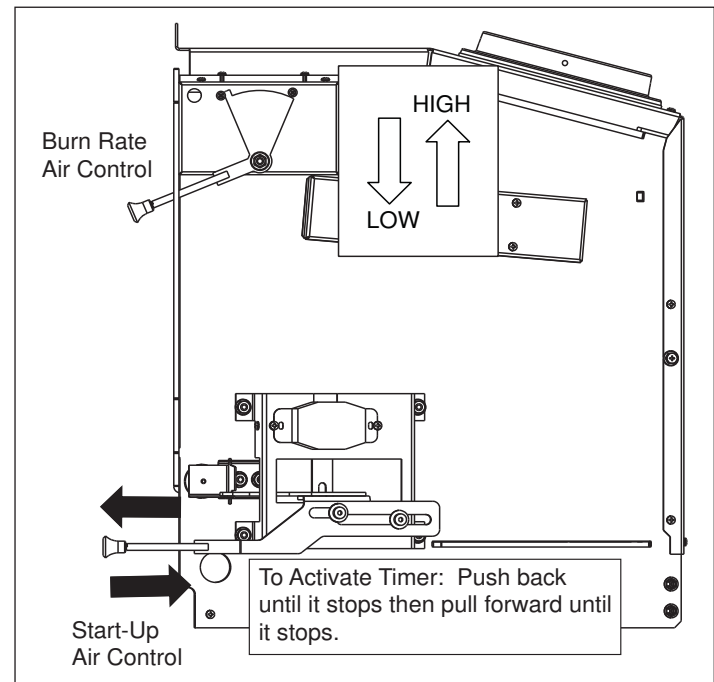

Figure 12.1 Activating Timer
- When the control is raised all the way up it is on the High setting and when pushed all the down it is on the Low setting. **Figure 12.1.**
2. Follow these burn rate instructions below and refer to **Figure 12.1**